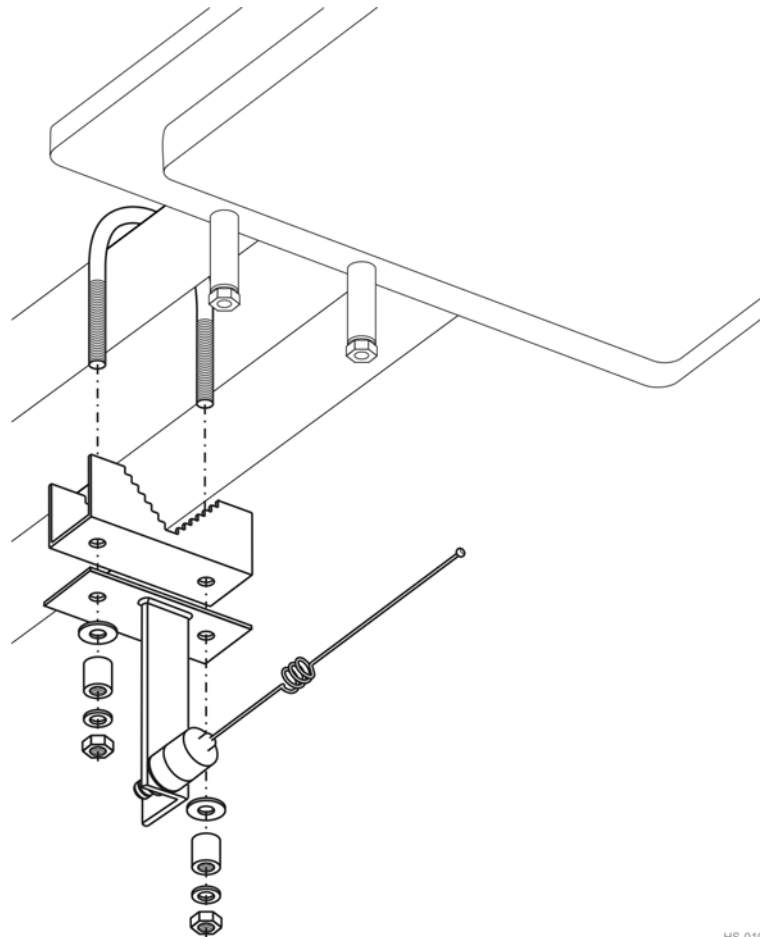

Figure 6 Check Tag Antenna Mounting on Mounting Pipe
1. Place the check tag antenna along the mounting pipe and insert a U-bolt around the pole and through the mounting bracket. Place a washer, spacer, lock washer and nut in that order over each side of the U-bolt (Figure 6).